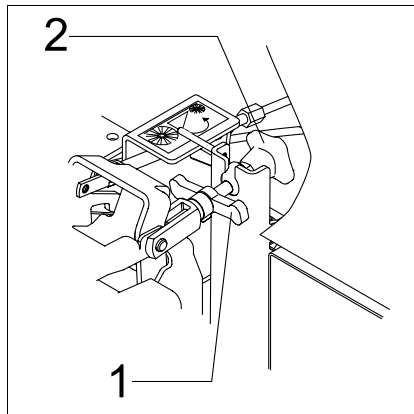

Fig. 14 Broom adjustment
The sweeping track width can be adjusted by the star knob (Fig. 14/1) as follows:
- Loosen handle (Fig. 14/1)
- Turns star knob (Fig. 14/2)
- Fix handle (Fig. 14/1)